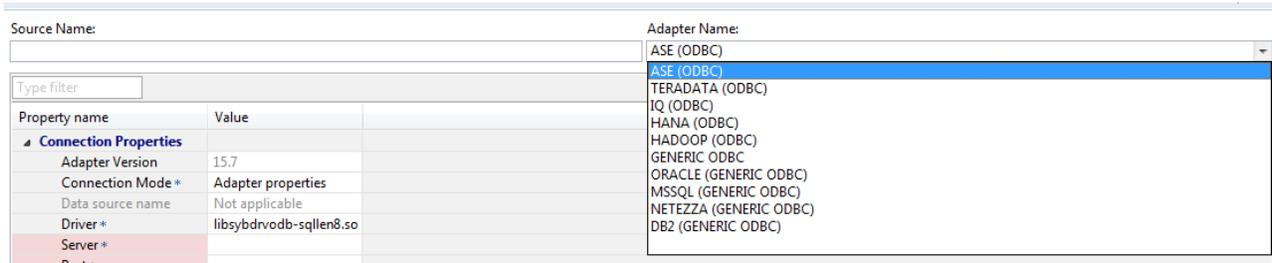

Figure 2 – Select the adapter for remote source
1.2 **Define properties of remote source:** Once you select the option 'new remote source' in the above step, the screen to define properties of the remote source will open up as shown in Fig 2 below. Enter the name of the source and select the adapter you want to use depending upon the remote source database. Next, enter the properties of the remote source as shown in Figure 3. There you can enter the server details, port and the username/ password that can be used to access the remote source. Please note that only the data that is accessible by the username that you enter in this step will be available for you to use in the rest of this article. Hence it is important to ensure that the username that you enter in this step has the requisite authorization for the data that you want to use in your planning application.